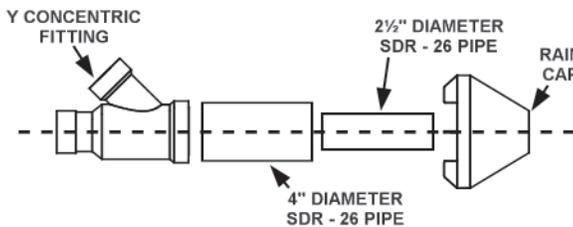

Figure 20
- Cement Y concentric fitting to larger diameter kit pipe, see Figure 20.
- Cement rain cap to smaller diameter kit pipe, see Figure 20.
- Cement the Y concentric fitting to larger diameter kit pipe, see Figure 20.
- Cement the rain cap to the smaller diameter kit pipe, see Figure 20.